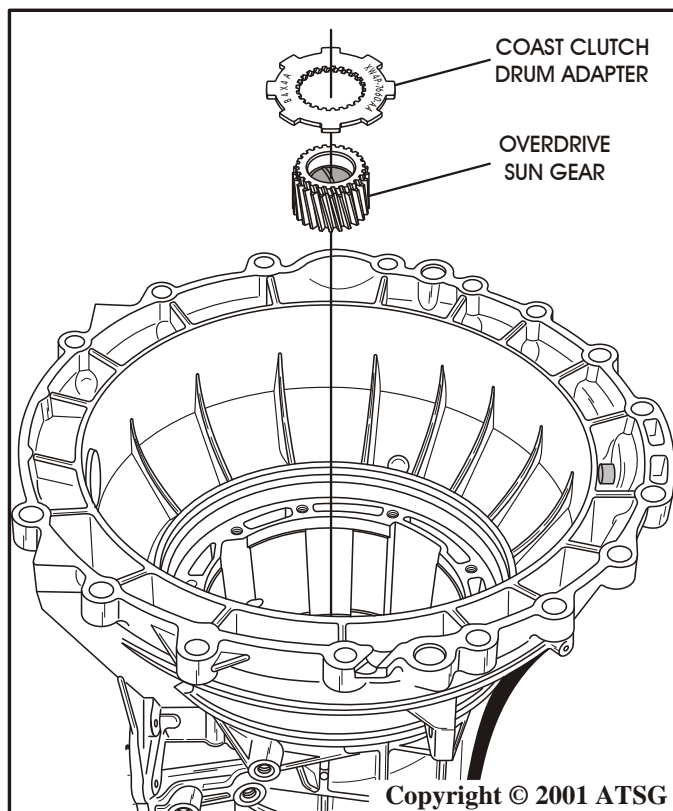

Figure 41
40. Remove the coast clutch drum adapter and the overdrive sun gear from the overdrive carrier, as shown in Figure 41.